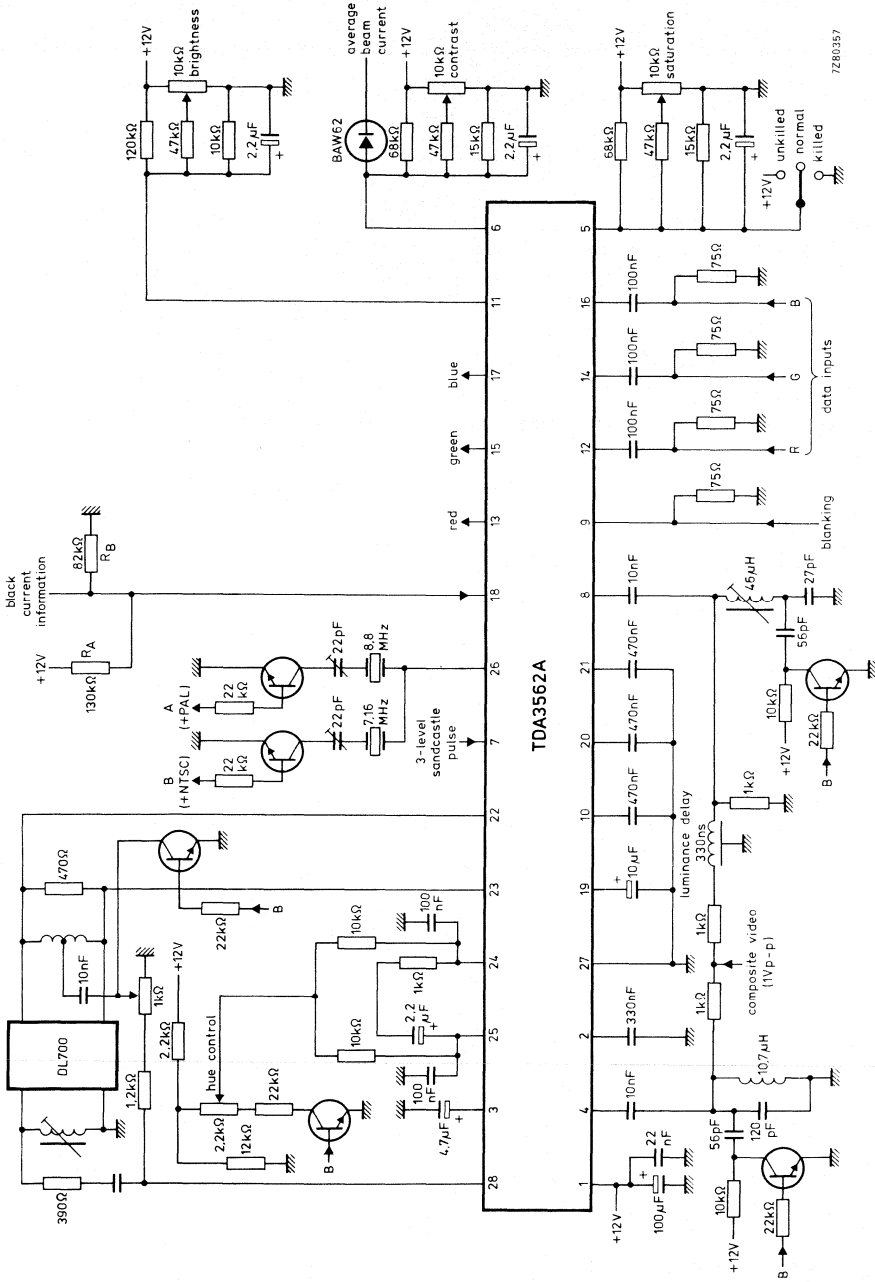

Fig. 8 Application diagram showing the TDA3562A for a PAL/NTSC decoder.
12. The voltage at pins 24 and 25 can be changed by connecting the load resistors ($10 \text{ k}\Omega$ in this application) to the slider bar of the hue control potentiometer (see Fig. 8). When the transistor is switched on, the voltage at pins 24 and 25 is reduced below 9 V, and the circuit is switched to NTSC mode.